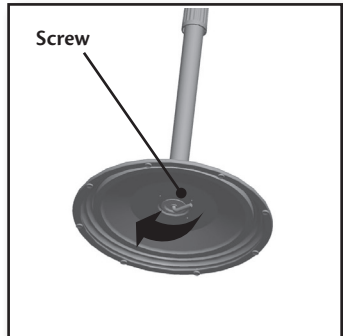

Figure 8
3. Insert the telescoping pole into the top of the base. Install the L-shaped screw into the threaded hole in the bottom of the pole to secure the pole to the base. Figure 8.